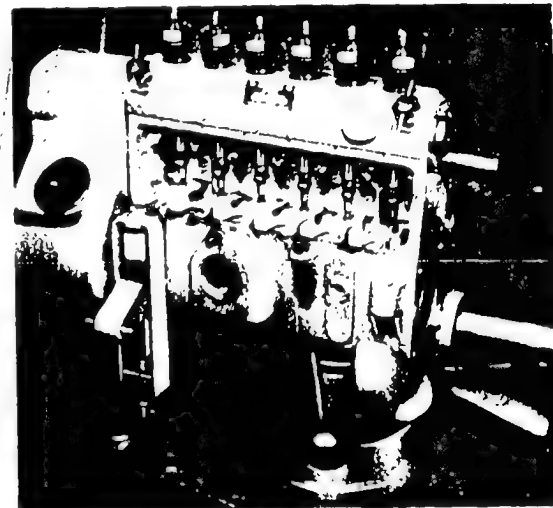

Fig. 51 For leakage test, insert plates; in this case inversely inserted old tappet plates
d) Keep plunger in and insert plate similar to the former tappet plate, but inversely (Fig. 51). Detach pump from mounting device and connect compressed-air pipe with inlet connection stud of pump. Close opposite stud well and dip pump in tank with test oil. Set air pressure to 0.5 to 1 atm and set pump under pressure. If an air bubble appears only now and then, the pump is considered tight. Take pump out and